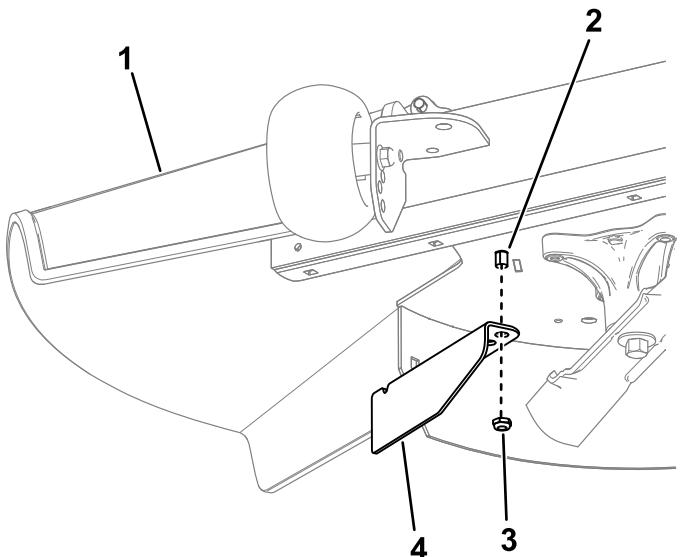

Figure 15
- Remove the nut from the grass deflector rod under the mower deck (Figure 15).
11. Use the nut to install the cutoff baffle to the grass deflector rod, using the outer hole in the baffle (Figure 15).